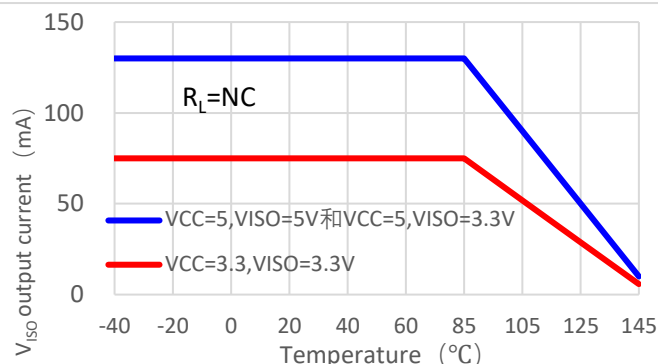
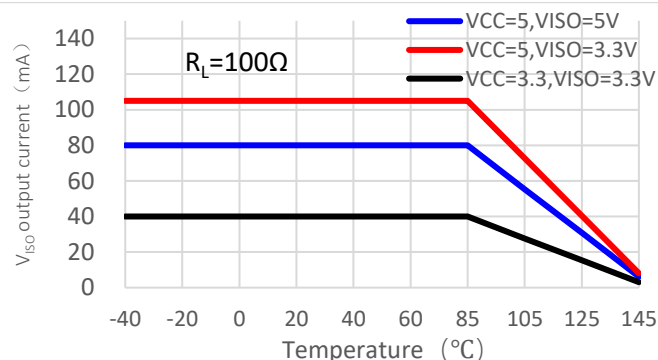

Figure 6-14.
Figure 6-16.
1. $DE = V_{CC}$, $\overline{RE} = 0V$, $DI = 0V$ or V_{CC} ; The available output current from V_{ISO} will be reduced when $T_A > 85^{\circ}C$, see Figure 6-14, Figure 6-16, Figure 6-18, the maximum output current of V_{ISO} vs. temperature.
The maximum output current from V_{ISO} is shown as Table 8-6. Note that the I_{ISO} value in Table 8-6 is the maximum output current at +25°C with data rate x load capacitance < 0.5Mbps × 2nF for CA-IS3092W/CA-IS3092VW (20Mbps × 200pF for CA-IS3098W/CA-IS3098VW). As the increase of temperature, especially when the temperature exceeds +85°C, the maximum load current will be decreased, see more details in Figure 6-14, Figure 6-16, and Figure 6-18.